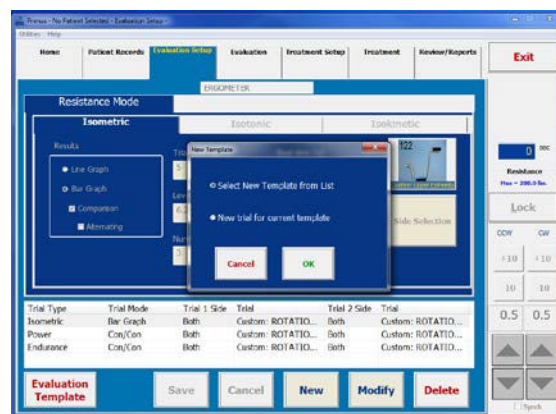

Figure 4c
- Click the “New” button at the bottom center of your screen (Figure 4c).